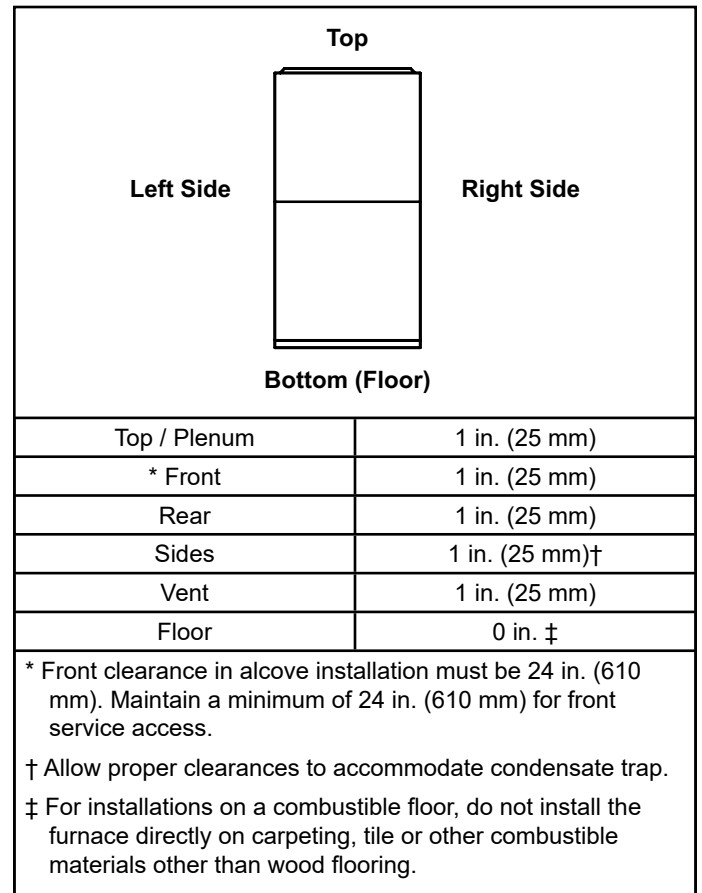
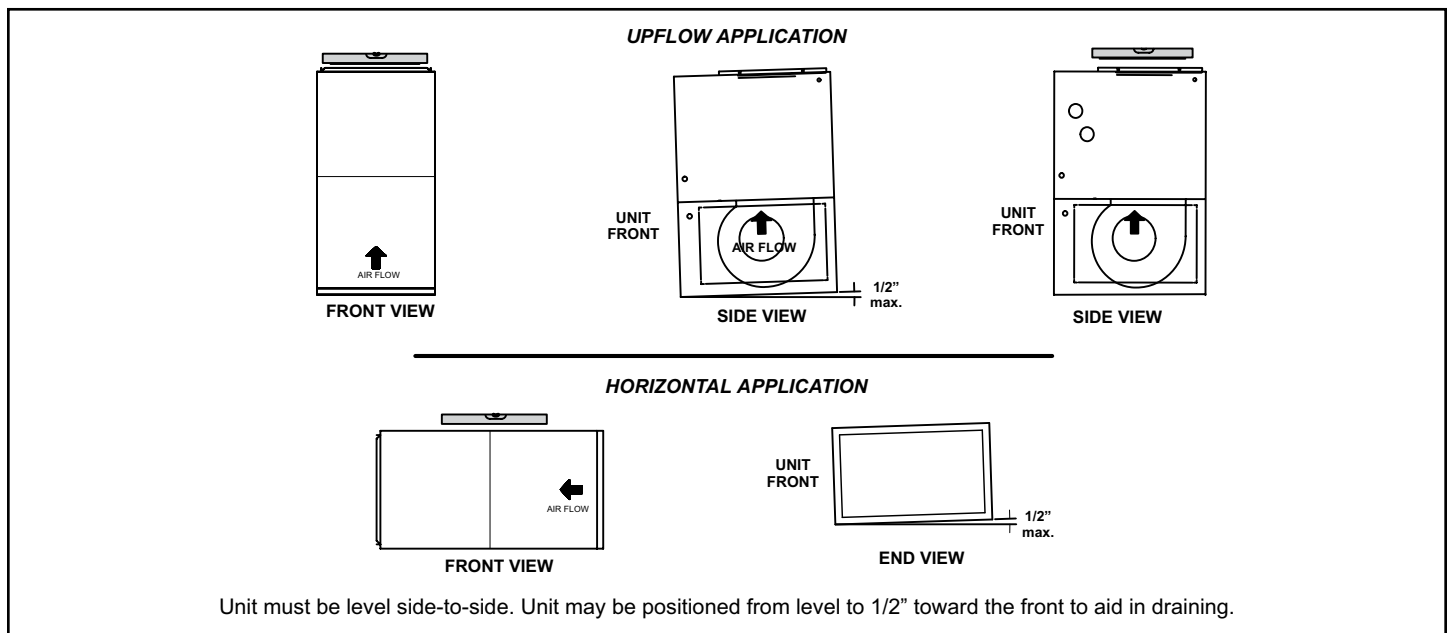
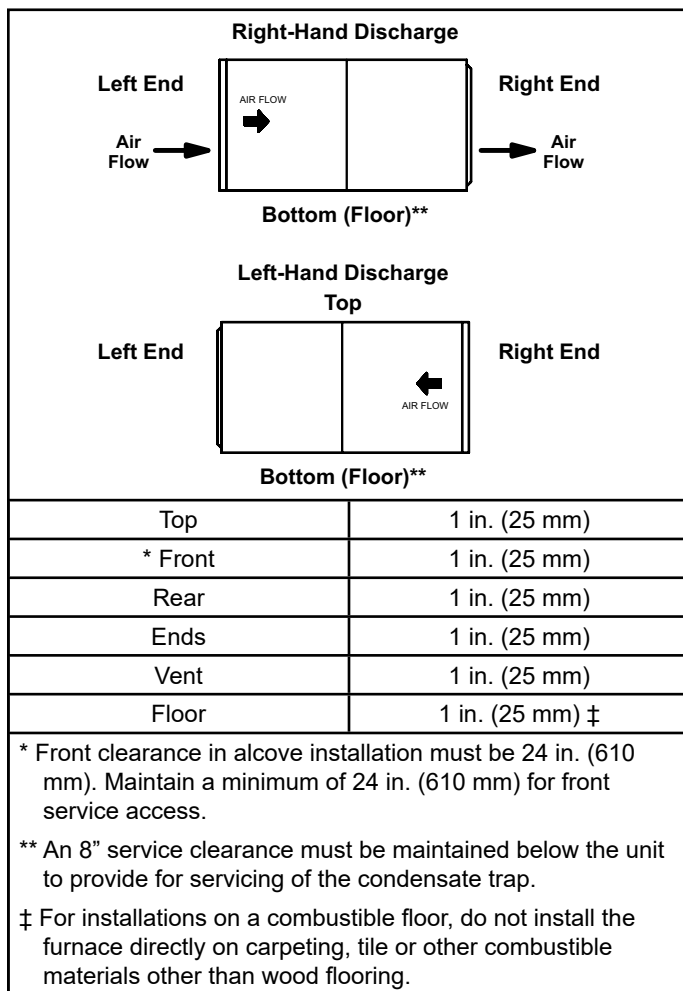

Figure 5. Installation Clearances Upflow Applications
Figure 6. Setting Equipment
Figure 11. Installation Clearances Horizontal Applications
This furnace is CSA International certified for installation clearances to combustible material as listed on the unit nameplate and in the table in Figure 5 or Figure 11. Accessibility and service clearances must take precedence over fire protection clearances.
The NF97XV gas furnace can be installed as shipped in the upflow position. Refer to Figure 5 for clearances. Select a location that allows for the required clearances that are listed on the unit nameplate. Also consider gas supply connections, electrical supply, vent connection, condensate trap and drain connections, and installation and service clearances [24 inches (610 mm) at unit front]. The unit must be level from side to side. The unit may be positioned from level to 1/2" toward the front. See Figure 6.
Refer to Figure 11 for clearances in horizontal applications.
12. Select location for unit keeping in mind service and other necessary clearances. See Figure 11.